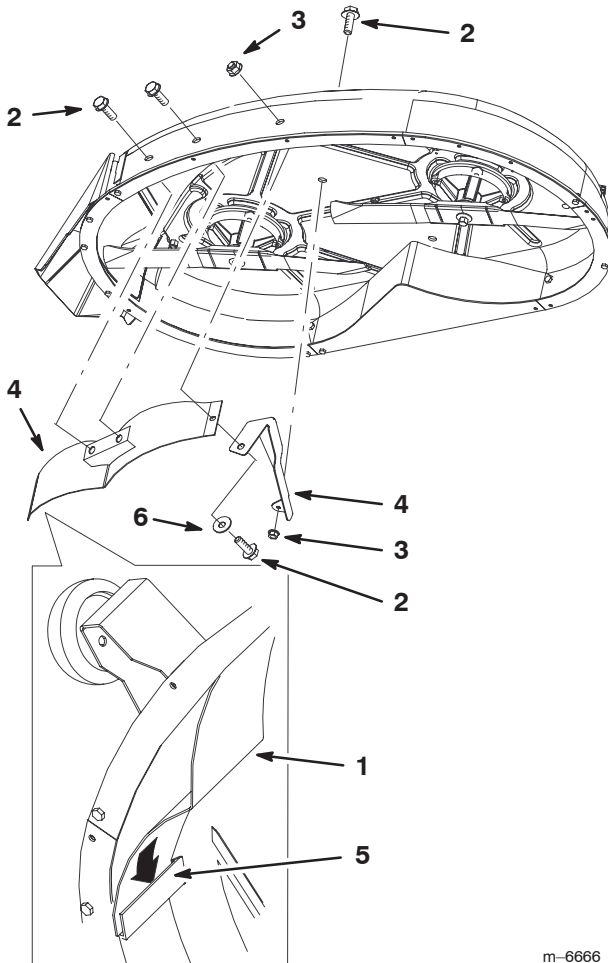

Figure 4
3. Install the front baffle into the slot in the discharge cover (Fig. 4).
4. Install the front baffle to the mower with two bolts (5/16 x 5/8 inch) (Fig. 4).
5. Install the front baffle together with the middle baffle to the front of the mower with 1 bolt (5/16 x 5/8 inch), washer (5/16 inch), and locknut (5/16 inch) (Fig. 4).
6. Install the middle baffle to the top of the mower with 1 bolt (5/16 x 5/8 inch) and locknut (5/16 inch) (Fig. 4).
2. Remove the middle baffle by removing the nut and bolt from the top of the mower and the nut, bolt and washer from the front baffle (Fig. 4). Save this hardware.
3. Remove the bolts from the front baffle and remove the baffle (Fig. 4). Save these bolts.